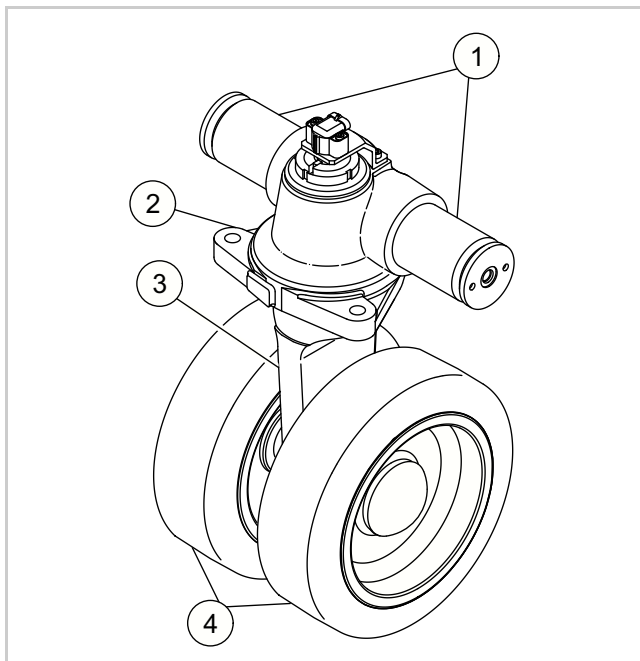

Fig. 12 (30017)
See Figure 12. When you replace the steer tire (4), make sure that the composition and size provide the correct maneuverability, stability, and braking. Replace both steer tires at the same time for equal tire circumference. See Introduction for the tire type.